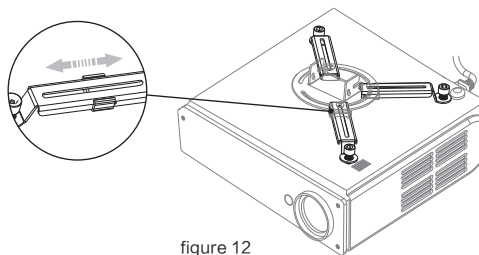

figure 12
2. If there are 3 holes, the installation arms (4-2) need to be taken apart from Installation bracket firstly. Connect 3 installation arms (4-2) to the projector, and then connect the installation arms (4-2) to the installation base (4-5). However, the installation base needs to be the center of projector. Figure 12.